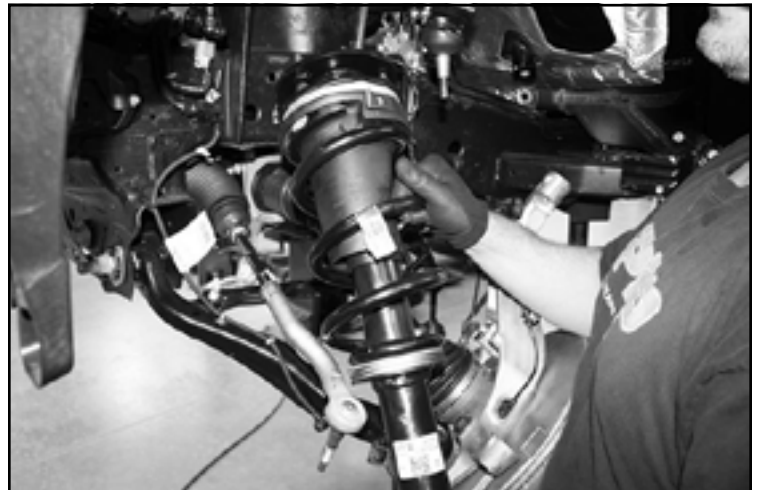

FIGURE 36 - STEP 28
28. Install the coil over into the upper shock mount using the supplied 7/16" Nylock nuts and washers. Leave loose at this time. **SEE FIGURE 36**